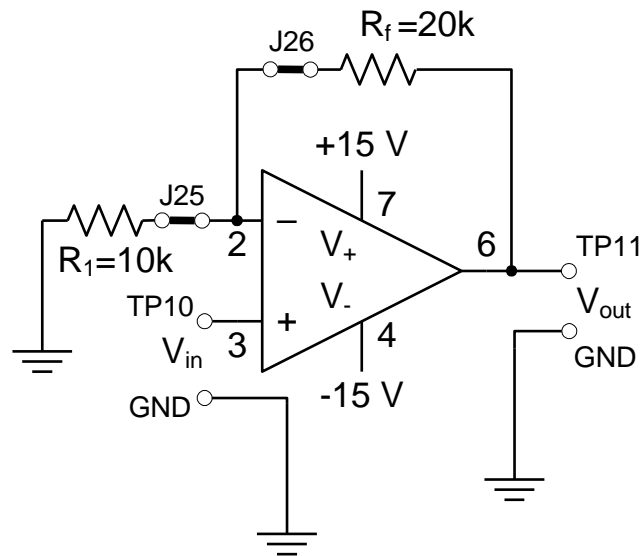

Figure 5 – Non-Inverting Amplifier Schematic Diagram
3. Insert jumpers J25 and J26 to construct a non-inverting amplifier circuit shown in Figure 5.